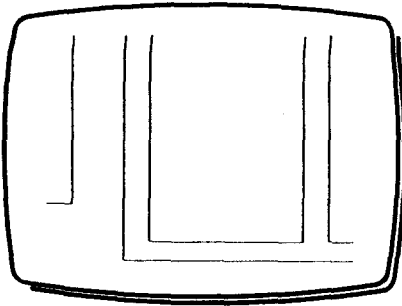

Fig 5
- 16 Press and release **T** to draw an enlarged lower section of the window frame as in Fig 5.